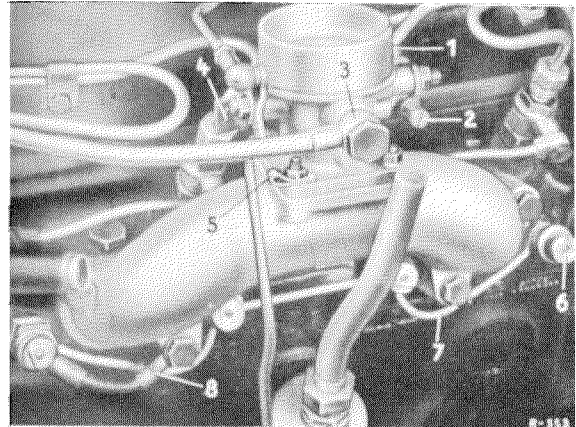

Figure 14-1/1
3. Unscrew vacuum line (3) on flap socket (Figure 14-1/1).
5. Mount intake line with new seals to cylinder head of **OM 636**. Make sure that the seals don't slip and that **the holes in the intake pipe are not covered**. Glue seals to fastening flange with a viscous grease and place intake line carefully in position. Tighten intake line uniformly to prevent warping. Use washers for bolts. Attach ground cable (8) with second bolt (refer to Figure 14-1/1).
7. Connect vacuum line (3) to throttle duct, use new sealing rings, if required (Figure 14-1/1).